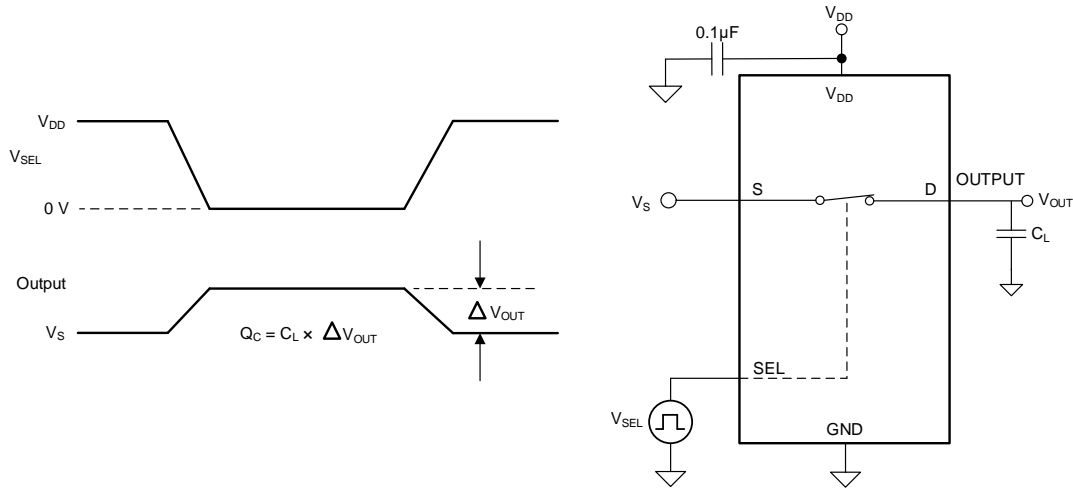

图 20. Charge-injection measurement setup
The TMUX110x devices have a transmission-gate topology. Any mismatch in capacitance between the NMOS and PMOS transistors results in a charge injected into the drain or source during the falling or rising edge of the gate signal. The amount of charge injected into the source or drain of the device is known as charge injection, and is denoted by the symbol  $Q_C$ . 图 20 shows the setup used to measure charge injection from source (S) to drain (D).